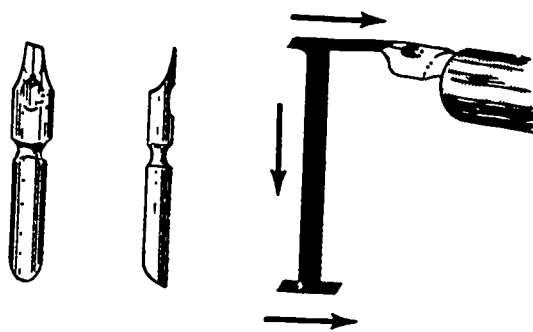

Figure 3-23. Text writer pen.
**Text Writing Pens.** Text writing pens are similar to type C speedball pens. They are made of much thinner steel and therefore produce a much sharper stroke. The nibs of the pens are angled so that they touch the paper when the pen is held in a natural writing position (see fig. 3-23).